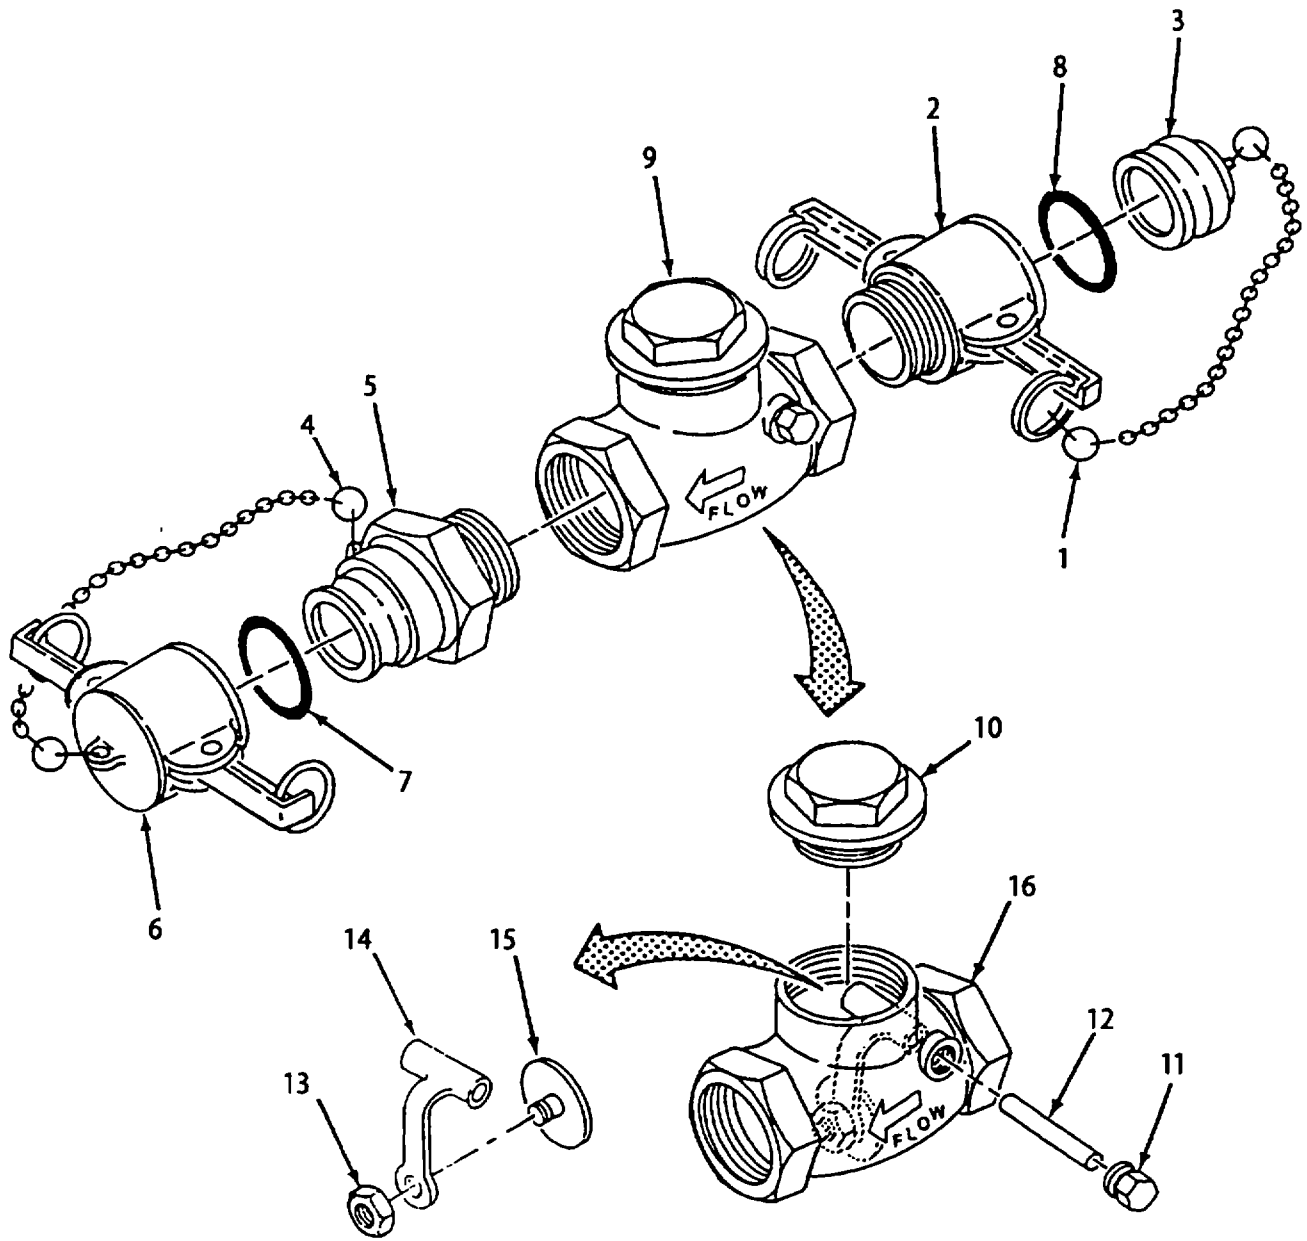

Figure 4-11. Check Valve Assembly (2-Inch) Repair
4.21 CHECK VALVE ASSEMBLY (2-INCH) REPAIR - Continued.a. Disassembly. Refer to Figure 4-11.
e. Assembly. Refer to Figure 4-11.
- (1) Position disc (15) on lever (14) and secure with nut (13).
- (2) Lower lever (14) and attached parts into body (16). Make sure sealing surface of disc (15) is positioned as shown.
- (3) While alining hole in lever (14) with hole in body (16), insert pin (12) through body and lever. Make sure pin is fully seated.